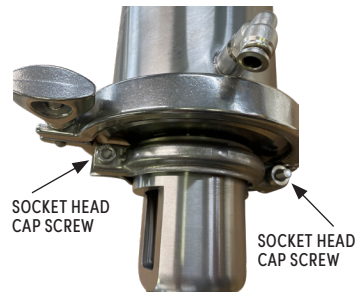

FIG. 19 - BONNET CLAMP WITH TWO SOCKET HEAD CAP SCREWS
4. Remove the bonnet clamp (see fig. 19) by loosening the two socket head cap screws using a 3/16" hex wrench.